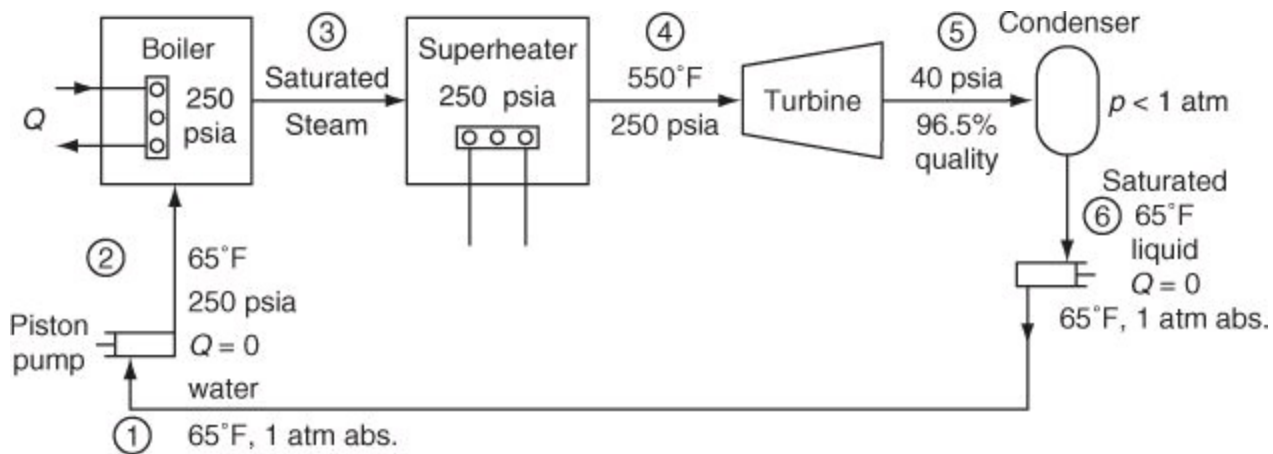

Figure P9.3.47
****9.3.47. A power plant operates as shown in Figure P9.3.47. Assume that the pipes, boiler, and superheater are well lagged (insulated), and that friction can be neglected. Calculate (in British thermal units per pound of steam):